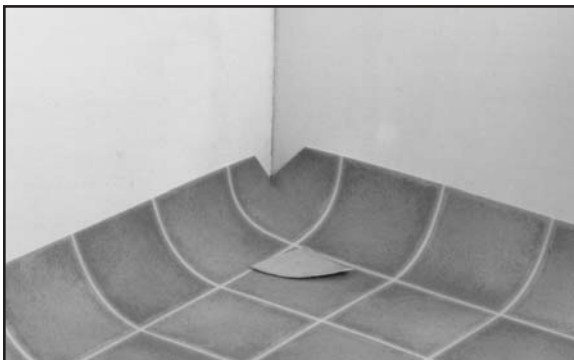

Fig. 54. Gradually trim off pieces of flooring
- Next, make relief cuts at all inside corners by trimming diagonally across the material (Figure 54). Trim the flooring gradually until it fits snugly into the corner juncture.